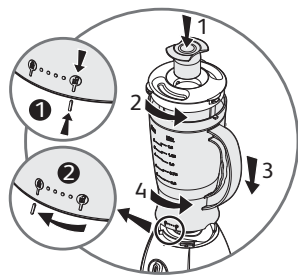
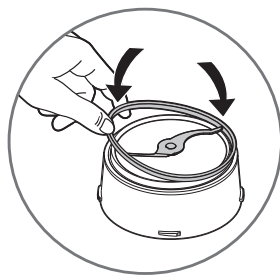
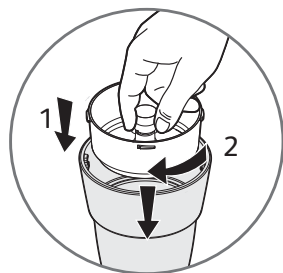

fig.1
fig.2
fig.3
- Fit the lid **(B)** to the mixer jug **(C)** and lock it by positioning it on the holes opposite the spout **(figure 1)**.
Introduce the measuring cup **(A)** into the lid and press into place **(figure 1)**. You are advised to hold the lid during operation.
- Place the mixer jug **(C)** on the body of the motor unit **(D)**. The lock (open)  is aligned in the slot on the motor unit **(figure 1)**.
- Then rotate the mixer jug **(C)** through a turn the lock (closed)  appears **(figure 1)**.
- Dice all the ingredients before putting them into the mixer jug (C). It is best to start with liquids, without going over the maximum level shown on the jug (1.5L).
- Connect the appliance and start up by turning speed selector (E) to "Pulse," "1," or "2".
- To stop the appliance, bring the speed selector (E) to "0".
- Wait for the appliance back to a complete stop before removing the mixer jug (C).
- Remove the mixer jug (C) by unlocking it in opposite direction to installation.
- This universal mill (F) is equipped with a bowl (f3) that prevents access to the blades during use.
- Rotate the bowl (F) and pour the ingredients.
- Position the sealing gasket (f1) in its recess on the mill blade unit (f2) (figure 2). Position the mill blade unit (f2) on the bowl (f3), and lock the universal mill by rotating the blade unit (f2) through a turn in the clockwise direction (figure 3).